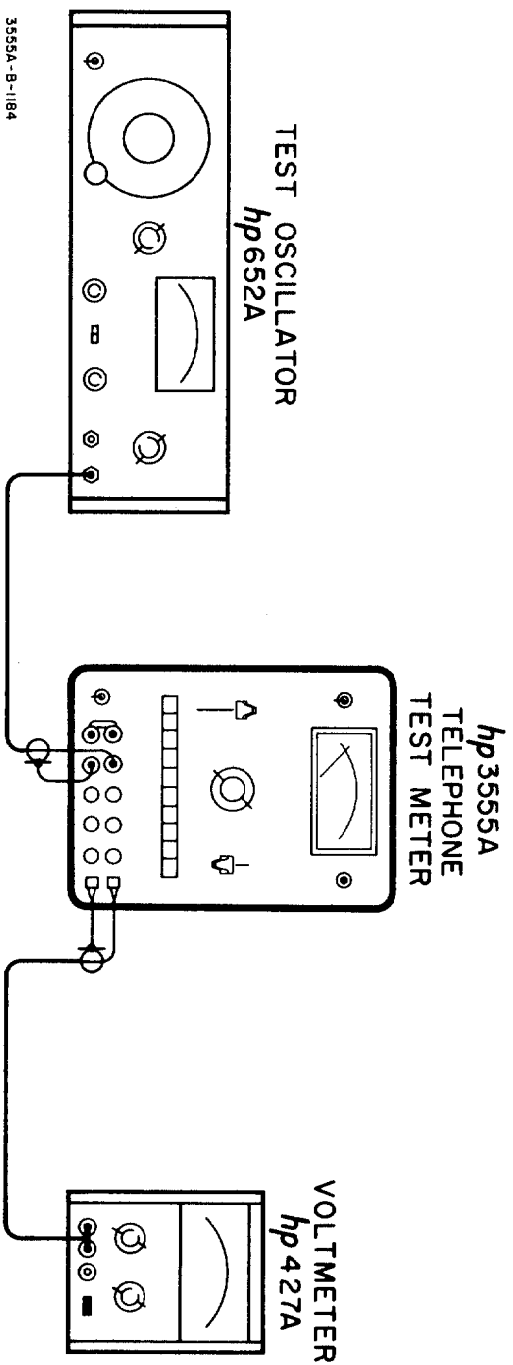

Figure 5-4. AC Monitor Test Setup
- a. With the equipment connected as shown in Figure 5-4, disconnect the 427A, and set the 3555A controls as follows: